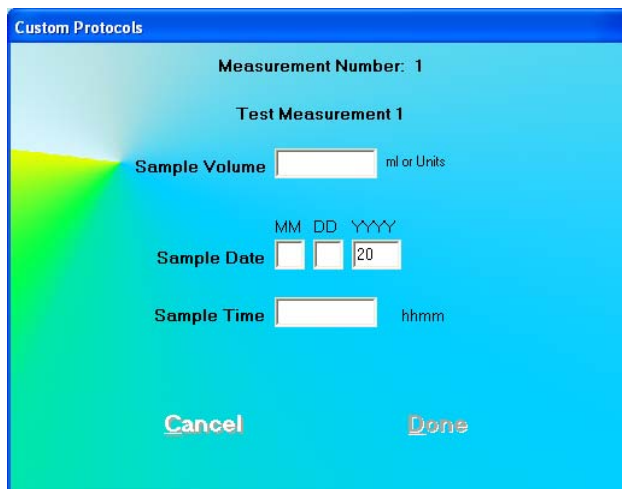

Figure 16-14
2. To begin the measurements, click the  button or press **ALT+C**. The Screen appears as shown in Figure 16-14.
3. If one or more options were checked for the current measurement, the Measurement Input Screen will be shown as in Figure 16-14. In the example, both Actual Sample Volume and Sample Date and Time have been selected for Measurement Number 1.